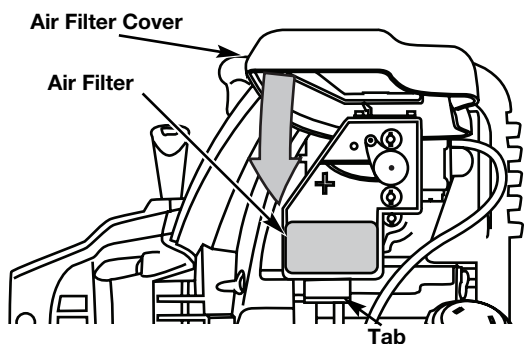

Fig. 49
8. Swing the cover down until the tab on the air filter backplate snaps into place in the slot on the air filter cover (Fig. 49).